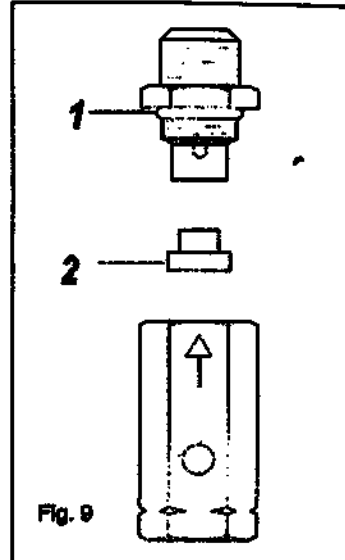

Fig. 9
- c) The non-return valve has fled. Disassemble the flexible tube to see if air comes out of the valve (Fig.9, item 1). If so, unscrew the lid of the valve, clean the disk of rubber (Fig.9 item 2) with a dry cloth and a re-pieces. If continues a replace valve is needed;